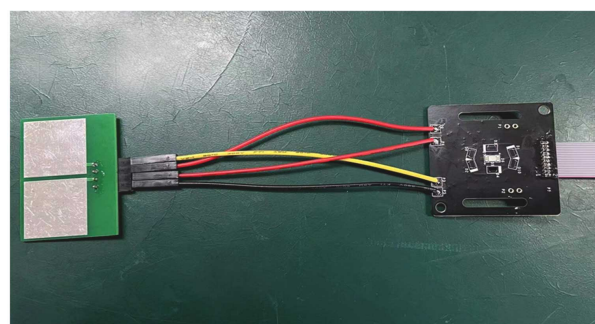

Figure 7. BIA Connection
- ▶ For BIA measurement, connect P3 to Electrode 1, P4 to Electrode 2, P6 to Electrode 3, and P5 to Electrode 4 (see Figure 7).